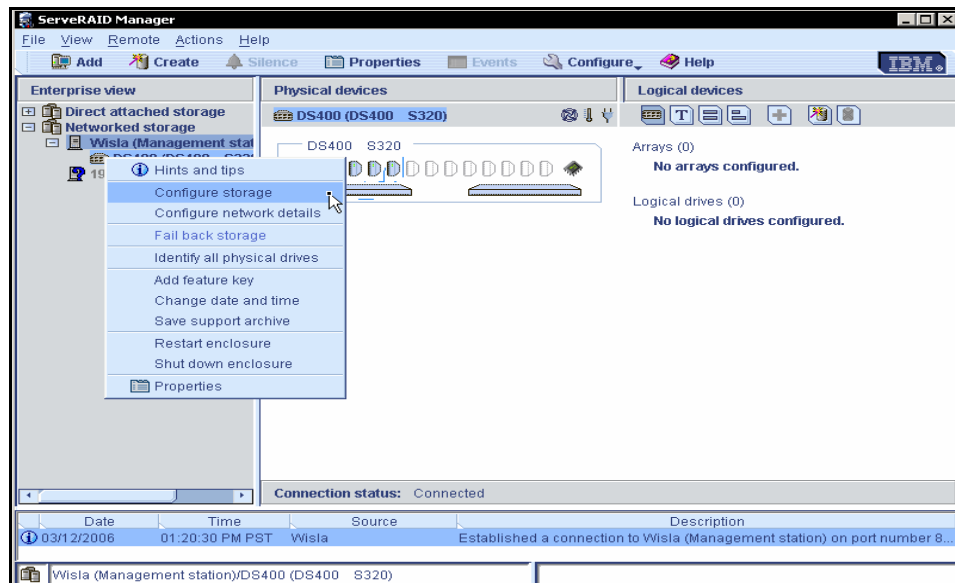

Figure 37 Configure storage
- To configure the DS400 storage with ServeRAID, right-click the enclosure from the Enterprise view of the ServeRAID Manager program interface and click **Configure storage**, as shown in Figure 37.